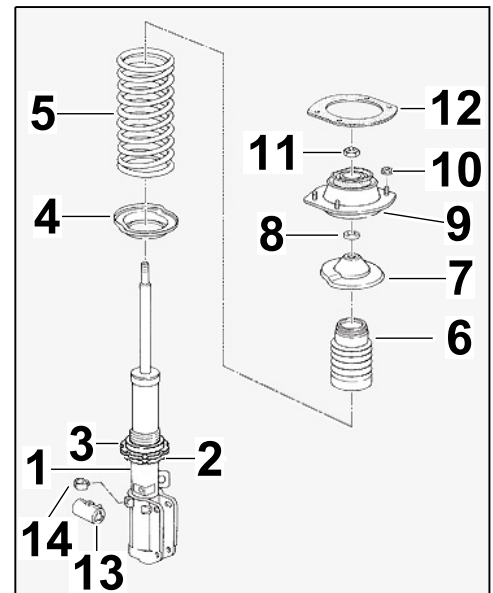

Figure 5
2.4 Disassemble faulty spring strut (⇒ Workshop Manual 4085 Disassembling front spring strut) and assemble new spring strut as shown in *Figure 5* (⇒ *Figure 5*).